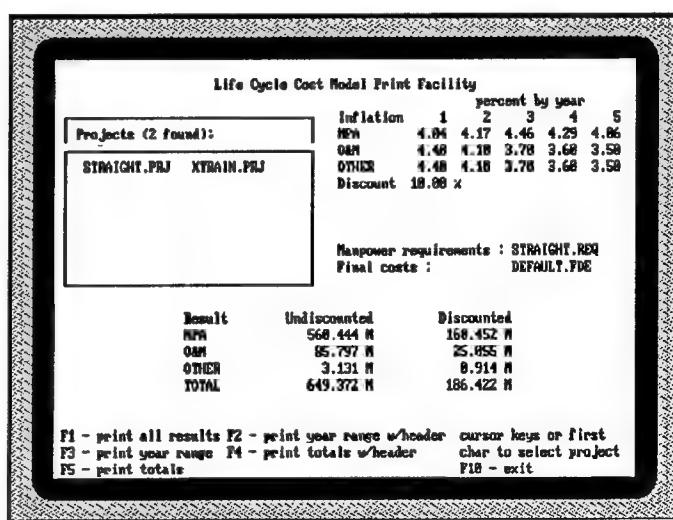

Figure 22.
**Operation:** When you invoke this menu option, AFMCOS presents a list of projects in the upper left window. The remainder of the screen contains information associated with the currently highlighted project. (Figure 22.) If you previously calculated the project, totals from that run will appear at the bottom of the screen. If any of the input files were changed or deleted since the last run, a warning will appear over the function key window, and deleted files will be starred. If input files were modified, the results may be inaccurate. Further, the print function cannot print the status parameters associated with projects with missing input files. Finally, you are warned if any output files have been deleted since the last run. In this case, you should rerun the project to insure you can print the results.